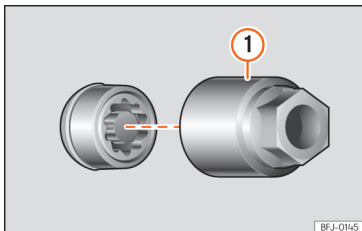

Fig. 240 Anti-theft wheel bolt with cap and adapter.
- Insert the special adapter **>>> Fig. 240 ①** [vehicle tools **>>> page 313**] onto the anti-theft wheel bolt and push it on as far as it will go.